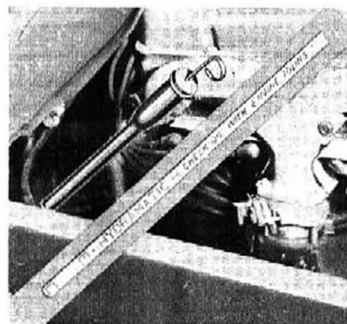

Fig. 80—Checking Hydra-Matic Transmission Fluid Level
1. Set parking brake and move control lever into (N) position; then start engine. Run engine at idling speed until engine and transmission have reached normal operating temperature.
2. Remove all dirt or gravel from area around indicator in the engine compartment on late models (fig. 80), or under the access hole cover in the floor pan on early models. With engine still